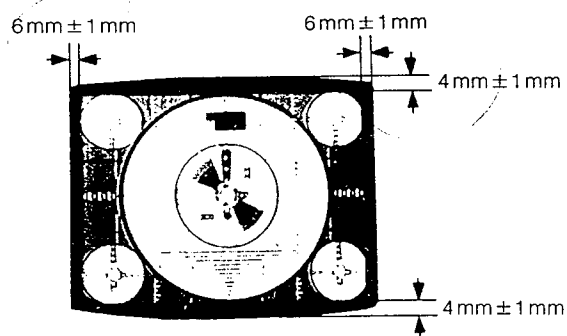

Figure 19
3. Adjust U.S. V-SIZE control (R411) until picture height becomes $4\text{mm} \pm 1\text{mm}$ shorter than picture tube screen at top and bottom as shown in figure 19.
3. Adjust H-SIZE control (R566) until picture width becomes $6\text{mm} \pm 1\text{mm}$ shorter than picture tube screen at both sides as shown in figure 19.